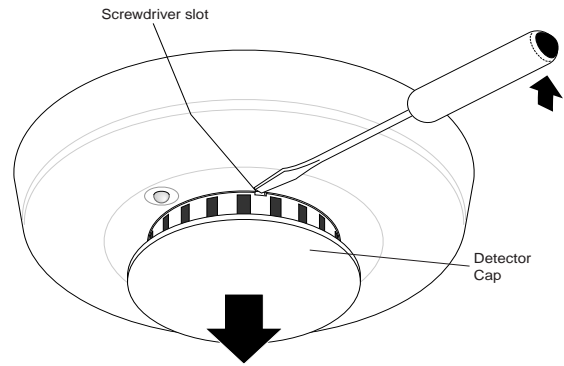

Figure 7 - Removing the Detector Cap
2. Slide a flat-blade screwdriver into the slot on the detector cap and gently push the handle down to pry the cap up and off. See Figure 7.